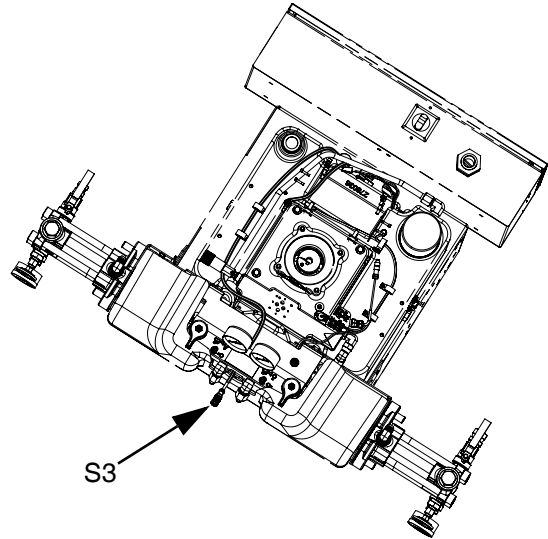

FIG. 19
NOTE: If the electrical cable is not present at the fluid manifold as shown in FIG. 19, kit 24K659 is required.
6. Route GX-16 Proximity sensor harness 16K790 (S3) under the HFR outlet manifold, FIG. 19, through the cube base and connect to the terminal block (TB) as shown in FIG. 18.